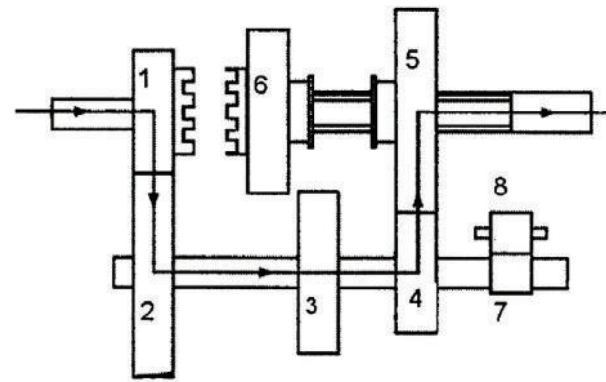

Figure 3.5.1.1 First gear power transmission
The gear (1) in the clutch shaft is in mesh with the gear in the counter shaft (2). As the gears 3 and 4 are in the counter shaft they also rotate. When the gear shift fork is moved towards left as shown in Figure 3.5.1.1 to engage the gear 5 in the output shaft with the gear 4 in the lay shaft, then the output shaft rotates. The rotary power is now transmitted to the output shaft from gear 1-2-4-5. Now we can get first gear ratio 3:1.